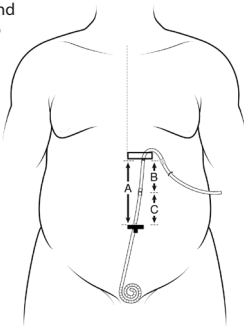

Figure 8
3) the location where the two catheters will be joined together. These instructions presume that the primary and secondary incision sites were marked during patient preparation prior to surgery. See Figure 8.
2. Record that distance, "A", in centimeters, between the primary and secondary incision sites. This distance, A, represents the total length needed when combining Upper and Lower Catheters. See Figure 8.